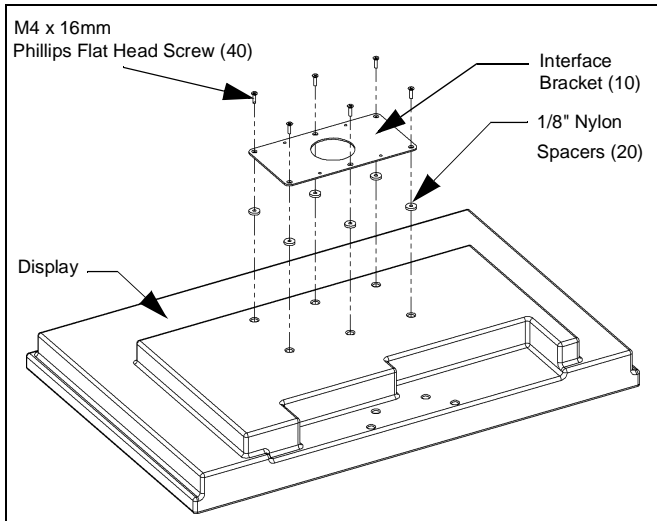

Figure 2: Secure Interface Bracket to Display
1. Using six 1/8" Nylon Spacers (20) and six M4 x 16mm Phillips Flat head Screws (40), attach Interface Bracket (10) to display (see Figure 2).